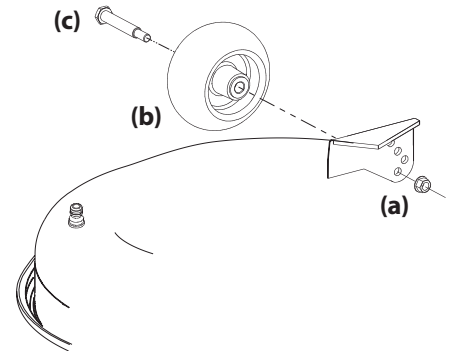

Figure 2-16
- a. Remove the lock nut securing one of the front gauge wheel shoulder screws to the deck. Remove the gauge wheel and shoulder screw. See Figure 2-16.